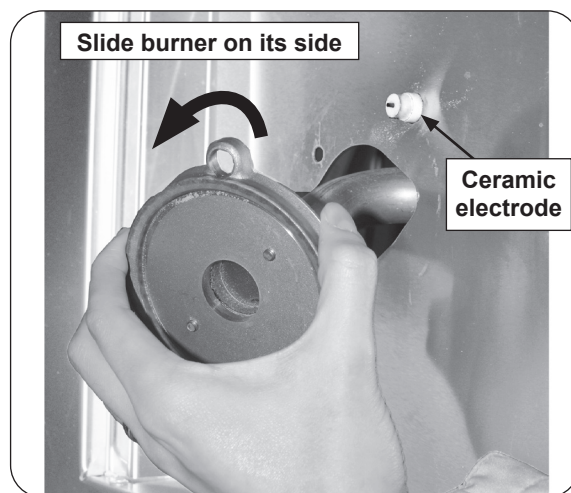

Fig. 38-3 Remove burner
5. Carefully lift the burner up and out, clearing the ceramic electrode (see Fig. 38-3), and pulling the burner tube away from the orifice located on the left side of the unit.